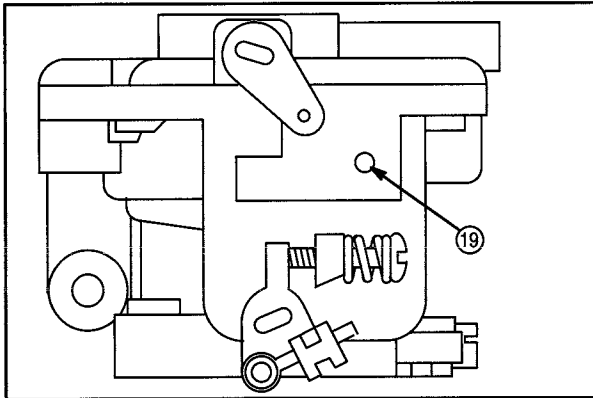

**Fig. 90**
14. Assemble inlet needle to float. Install float assembly (18), **Fig. 90**.